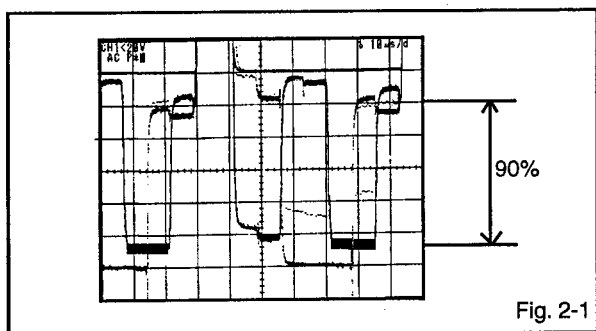

Fig. 2-1
7. Press the VOL. UP/DOWN button on the remote control until the red color level is adjusted to $90 \pm 10\%$ for the white level. (**Refer to Fig. 2-1**)